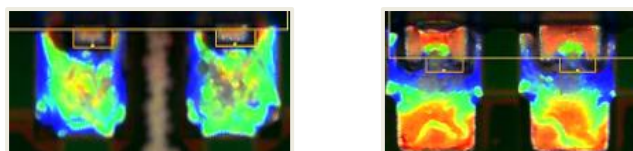

Figure 12 Standard PDFN56 solder status compared with PDFN56U
4.1.1 The optical microscope examined the pin solder joint status (Figure 12). The wettable frank PDFN56U tin soap profile is more significant than the standard PDFN56.